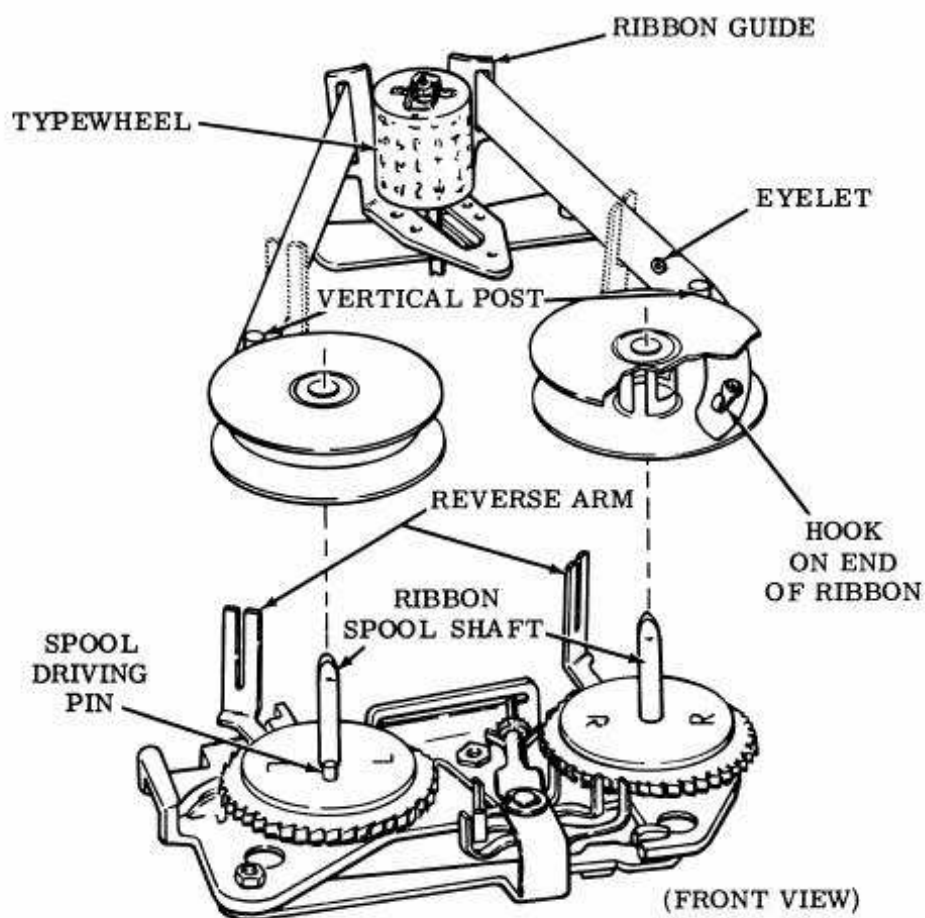

Figure 5 - Ribbon Threading
3.07 Figure 5 illustrates ribbon threading.